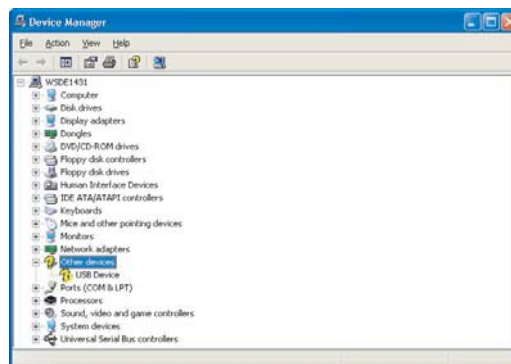

Figure 4: Device Manager
4. If Windows fails to detect a new device, go to: Control Panel->(Performance and Maintenance)System->Hardware->Device Manager, as shown in Figure 4, and right click the unknown USB device, then choose “Update Driver...”.